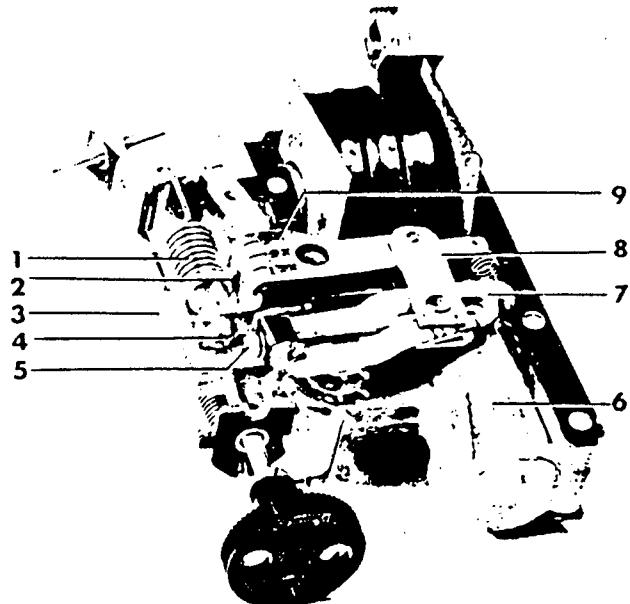

Figure 11. (8024843) EC-2 Overcurrent Trip With Cover Removed.
The tripping time may be varied within the limits shown on the characteristic curves by turning the time adjustment screw (5), Figure 11. Turning in a clockwise direction increases the tripping time;
counter-clockwise motion decreases it. The dashpot arm (7), Figure 11 is indexed at four points, maximum - 2/3 - 1/3 - minimum from the left, as viewed in Figure 11. When the index mark on the connecting link (8), Figure 11, lines up with a mark on the dashpot arm, the approximate tripping time as shown by the characteristic curve is indicated. The 1A and 1B characteristic devices are shipped with this setting at the 2/3 mark and the 1C characteristic at the 1/3 mark. The standard characteristic curves are plotted at the same settings.
Time values are inversely proportional to the effective length of the dashpot arm. Therefore, the linkage setting that gives the shortest time value is the one at which dimension "A" Figure 11, is greatest. The time adjustment screw (5), Figure 11, may be turned by inserting a Phillips head screwdriver through the hole in the front of the case, but if it is desired to relate the linkage setting to the index marks on the linkage it will be necessary to remove the case. This may be done by removing the two mounting screws, one on each side of the case, which may be taken off without disturbing the trip unit itself.
The high set instantaneous pick-up value may have one of the following three ranges: 4 to 9 times coil rating; 6 to 12 times coil rating or 9 to 15 times coil rating. The pick-up setting may be varied by turning the instantaneous trip adjusting screw (4), Figure 11.
Three standard calibration marks will appear on the operating arm at (9), Figure 11, and the value of these calibration marks will be indicated
At the factory, the pick-up point has been set at the nameplate value of the instantaneous trip current. (Usually expressed in times the ampere rating of the trip coil.) The variation in pick-up setting is accomplished by varying the tensile force on the instantaneous spring. Turning the adjustment screw changes the position of the movable nut (2), Figure 11, on the screw. The spring is anchored to this movable nut so that when the position of the nut is changed, there is a corresponding change in the spring load. As the spring is tightened, the pick-up point is increased. The top edge of the movable nut (2), Figure 11 serves as an index pointer and should be lined up with the center of the desired calibration mark, punched slots on operating arm, to obtain the proper instantaneous trip setting.